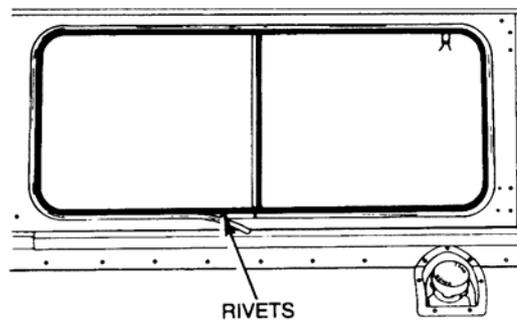

Figure 39 Filler Strip Removal
- Remove the rubber filler strip from the groove in the glazing rubber (refer Figure 39) to expose the rivets.
- ii. Position the window frame in the body aperture and secure with rivets (refer Figure 39).